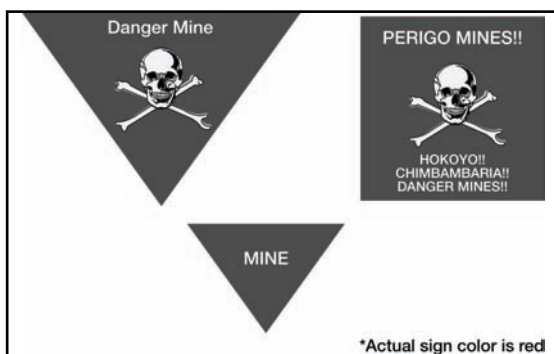

Figure 052-192-1269-2. Example of mine signs
(2) Check for manufactured markings of mines, booby traps, IEDs, and UXO (figure 052-192-1269-2). Look for—